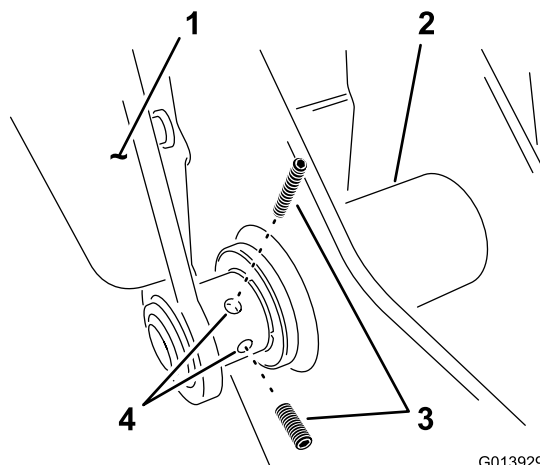

Figure 9
- I. Install a set screw to the left arm at the lower hinge point (Figure 9). Do not tighten at this time to allow for adjustment of the cradle system.